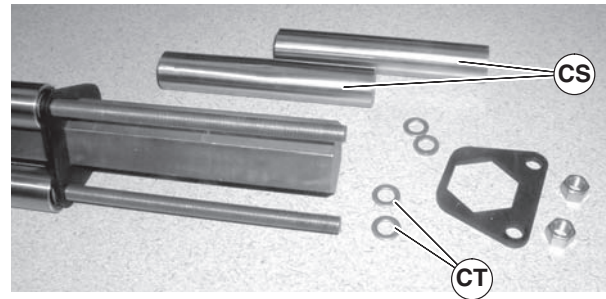

Figure 72
- Remove pulleys (Figure 72, item CS) and additional washers (CT).